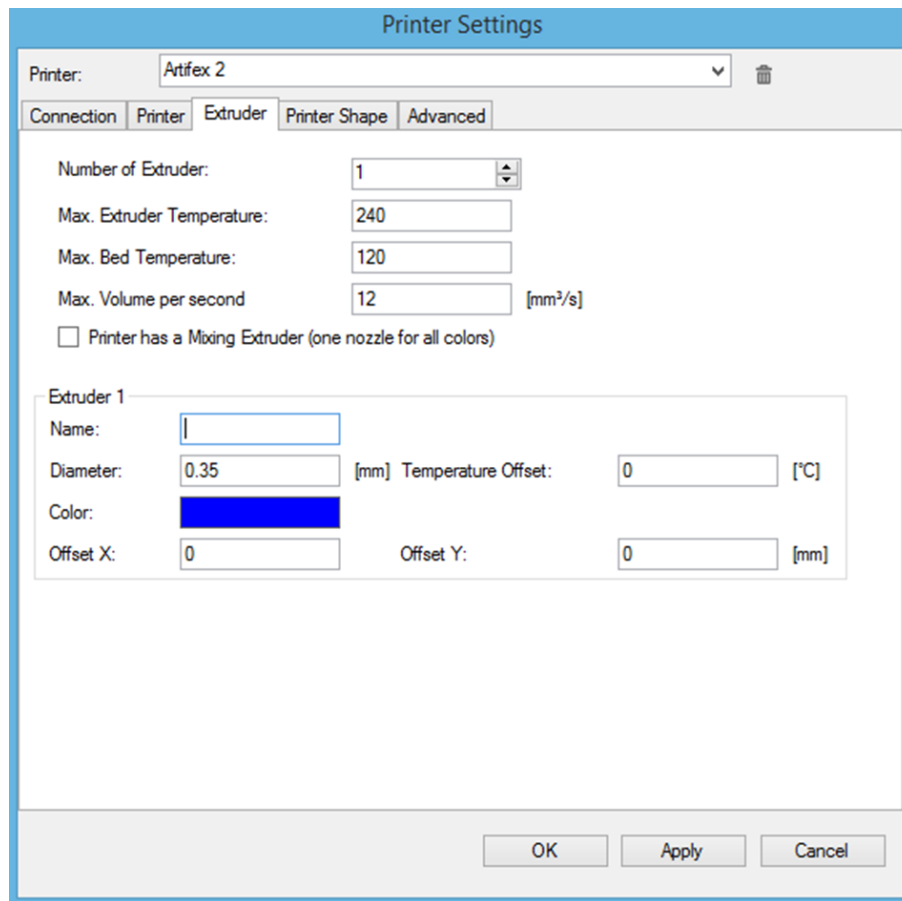

Figure 2.23: Printer Settings: Extruder
- Configure the settings on the “**Extruder**” page. (Figure 2.23) (Note: For Artifex 2 All Metal, change the extruder diameter to 0.4mm.)